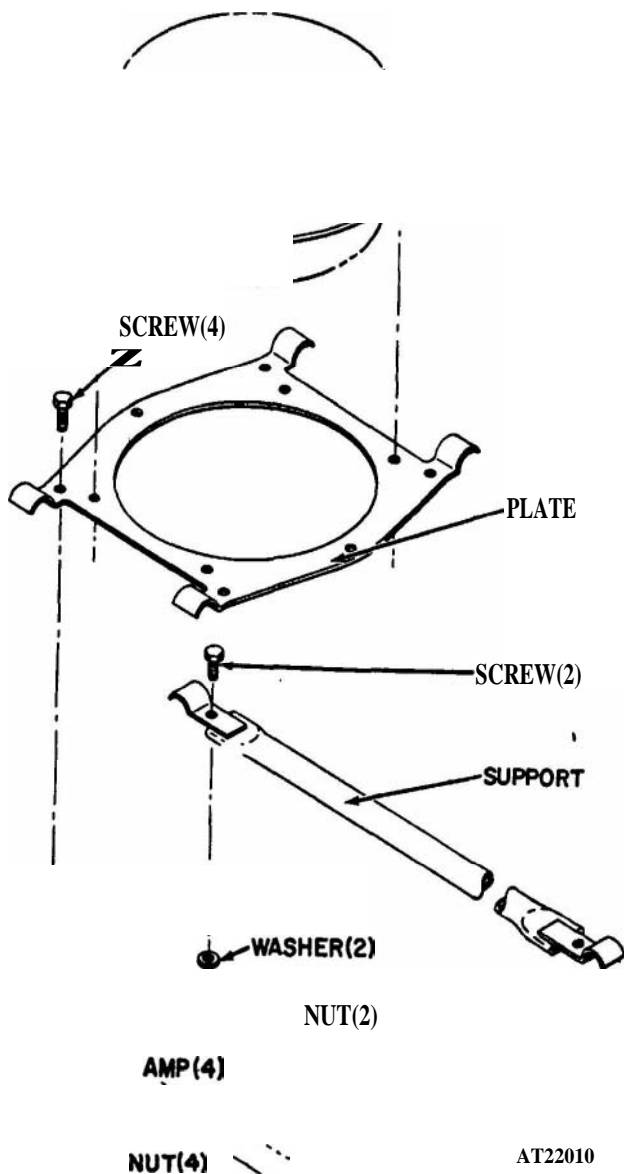

Figure 2-358. M792 ambulance surgical light brackets, removal and installation.
(1) Remove light assembly (refer to **para 2-126**).
(2) Remove light plate by removing four clamps, screws, washers, and nuts (fig 2-358).
(3) Remove tubular lamp support by removing clamps, screws, washers, and nuts.
(1) Position tubular lamp support between two bows and secure loosely with two clamps, screws, washers, and nuts (fig 2-358).
(2) Lay light plate atop and between supports and secure with four clamps, screws, washers, and nuts. Tighten clamp of tubular support attaching hardware.
(3) Install light assembly (para 2-126).